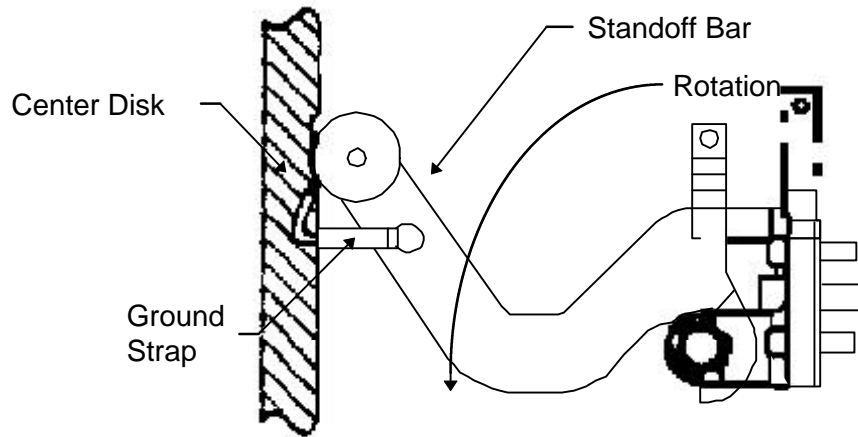

Figure 4.- Side view of Standoff Bar.
4. Remove Ground Strap from Standoff Bar (Ratchet 3/8", TBD Socket). See Figure 4.
5. Rotate Standoff Bar towards Hatch center, remove from structure. Temporary stow. See Figure 4.
See Figure 4.
See Figure 4. Repeat steps 3 --- 5 for remaining Standoff Bar Assemblies (three).